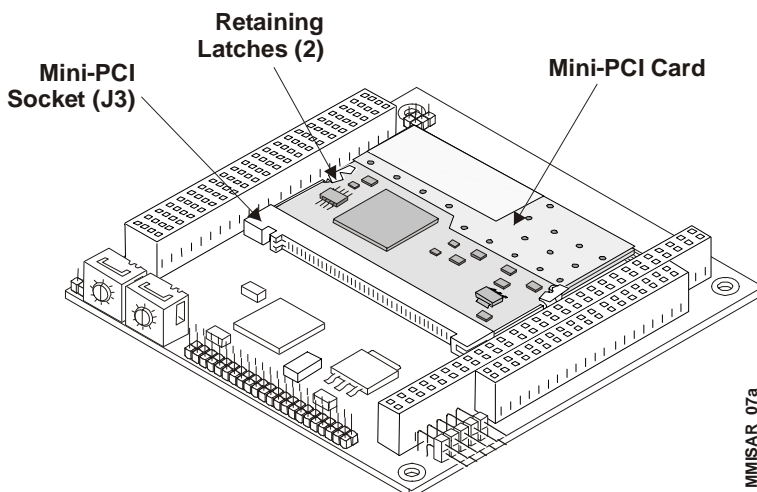

Figure 3-6. Mini-PCI Card Location (Top view)
4. Disconnect any cables that would prevent you from accessing the Mini-PCI socket (J3) See Figure 3-6.
5. Locate the Mini-PCI socket (J3) on the top of the MiniModule ISA board. See Figure 3-6.
6. Open both retaining latches to release the Mini-PCI card from the socket. See Figure 3-6.